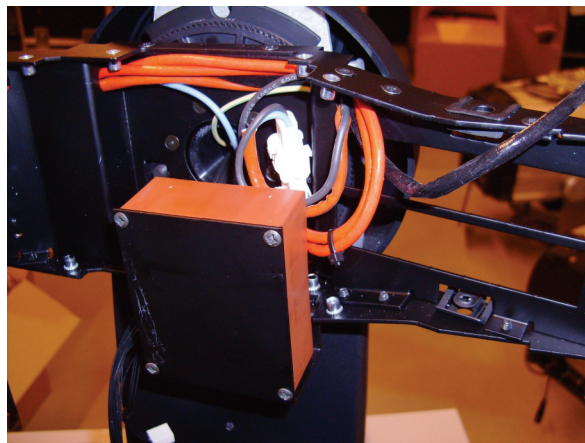

Figure 61
66. See Figure 61. Fasten the ignitor in its mounting bracket re-using the original four screws. Connect the ignitor input connector. Secure wiring with cable ties.
Important! Pull the lamp leads back towards the ignitor so that the only place where there is slack in the leads is next to the ignitor, as shown in Figure 61.